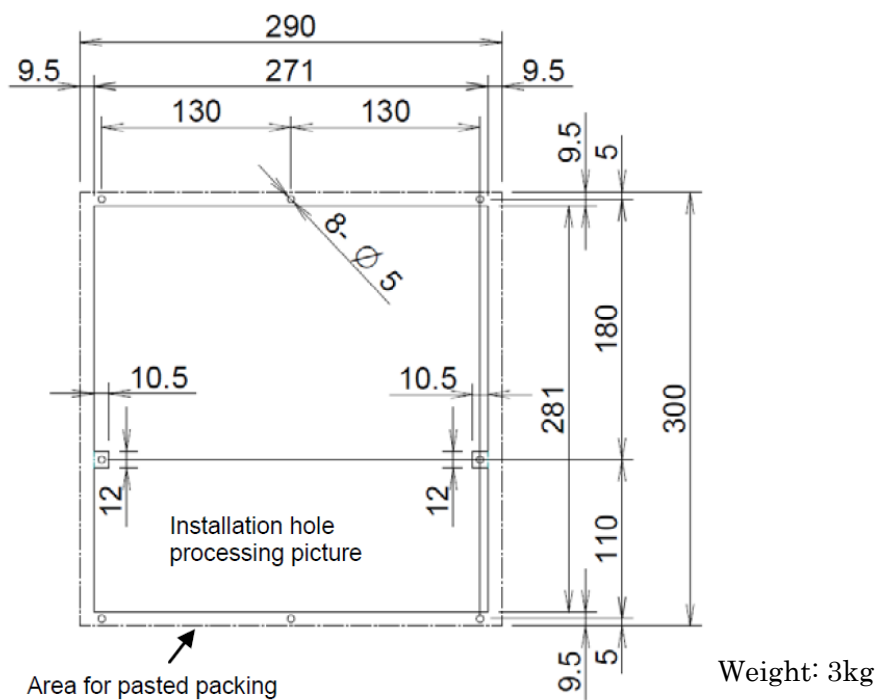

Fig. U14 10.4" LCD/MDI unit(Vertical) ④
| | 10.4" LCD/MDI unit(Vertical) | Fig. U14 | ④ |
| | 10.4" LCD/MDI unit B(Vertical, with touch panel) | Fig. U14 | ⑩ |